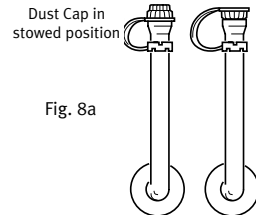
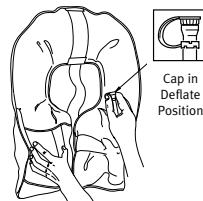

Fig. 8a
Fig. 10
5. Check that the oral-inflation dust cap is placed properly in the stowed position (Fig. 8a.)
To deflate the buoyancy cell, reverse the oral-inflation tube dust cap and insert it into the valve. The dust cap will not lock in the deflate position so it is necessary to hold it in place (Fig. 10). Gently squeeze the cell until all air or gas has been expelled. Put the inflation tube dust cap back in its normal position on the oral inflation tube (Fig. 8a).
Before repacking, completely deflate the inflation cell. Force excess air out through the inflation tube (Fig. 10). Do not wring cell. Put the inflation tube cap back in the stowed position (Fig. 8a).